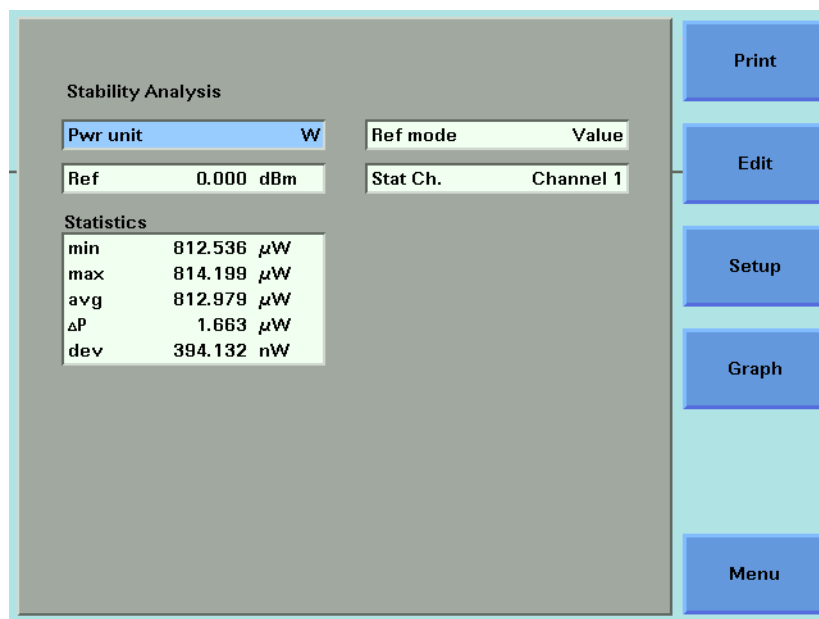

Figure 175 The Keysight 8164A/B Stability Analysis Screen
- 21 Press [Analysis]. The Stability Analysis screen appears as shown in Figure 175 on page -283 for the Keysight 8164A/B and Figure 175 on page -283 for the Keysight 8163B.